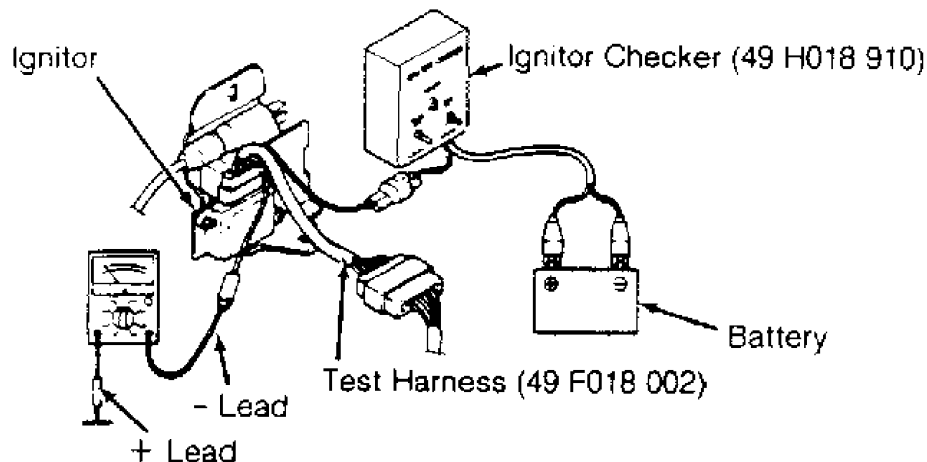

Fig. 7: Checking Ignitor (MX-6 Turbo, 626 Turbo & 929)
2) Connect Ignitor Checker (49 H018 910) to other lead of test harness and to battery. See Fig. 7. Set ohmmeter to X1 scale.